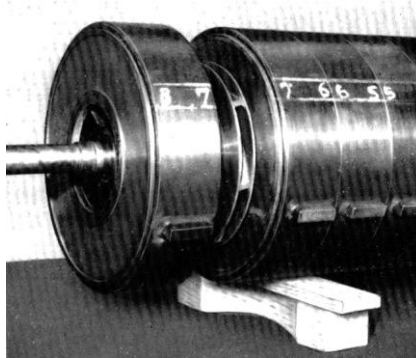

Fig. 73 - Mounting the stage casings
5. Mount all the following stages in similar fashion each stage consists of stage casing (108), diffuser (171.1), casing wear ring (502), flat gasket (400.2), impeller (230), key and stage sleeve (521). Underpin the stage casing (108) in turn after assembly (see Fig. 73).